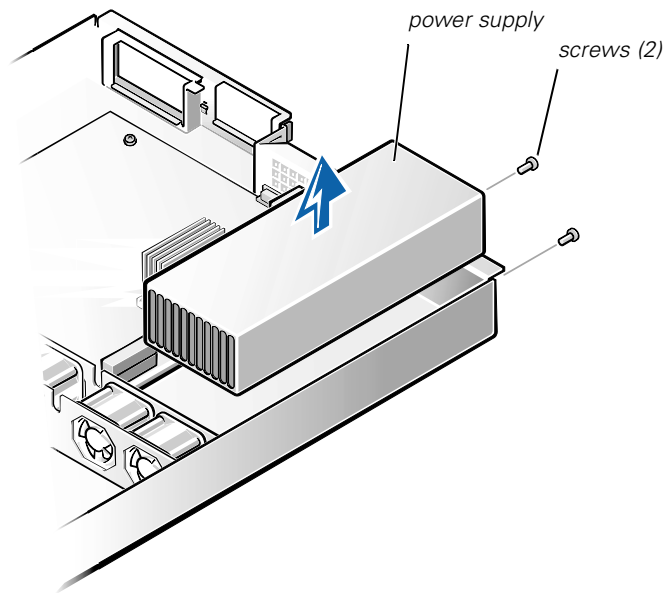

Figure 7-4. Power Supply Removal
6. Remove the two screws that secure the power supply to the chassis back panel (see Figure 7-4).